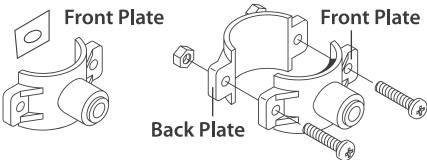

Figure 6
1. Paste the foam seal onto the front plate of drain saddle. Make sure the hole of foam seal is aligned with the hole of front panel (Figure 6);